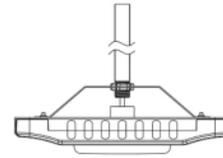

Figure 7
2. Unscrew the nut from customer supplied 3/4"NPT stem, make the stem hole on mounting bracket through 3/4"NPT stem, then screw the nut back to 3/4"NPT, and fix it. (Figure 7)